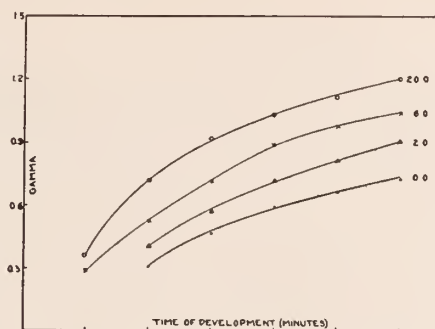

Fig. 4. Time-gamma curves for increasing quantities of borax in the regular formula at 66°F. The borax content is 1 gram per liter (Rack and Tank method).
The alkalinity of the developer can be increased by increasing the quantity of borax. Fig. 4 gives time-gamma curves for the regular formula with increasing concentrations of borax up to 20 grams per liter and shows graphically how the rate of development increases with an increase in borax content. If a gamma of 0.9 can be produced in 18 minutes with the regular formula, the same gamma can be obtained in 12½ minutes in a formula containing 6 grams of borax per liter; and in 9 minutes with 20 grams of borax per liter.
(7) *Practical Methods of Changing the rate of Development.*—The rate of development can be increased by increasing the concentration of borax as shown in Fig. 4 and to a lesser degree by increasing the concentration of the developing agents if extra borax is added to compensate for their acidity.